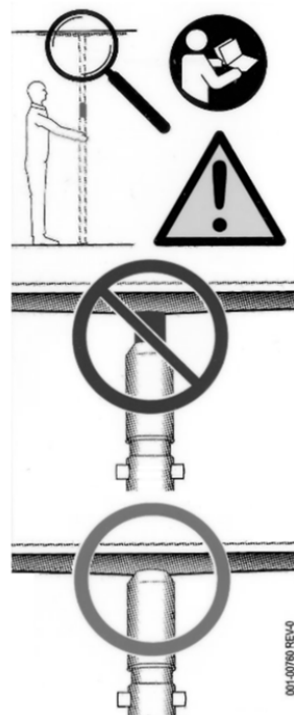

Figure 4
**This safety label, (see Figure 4)**